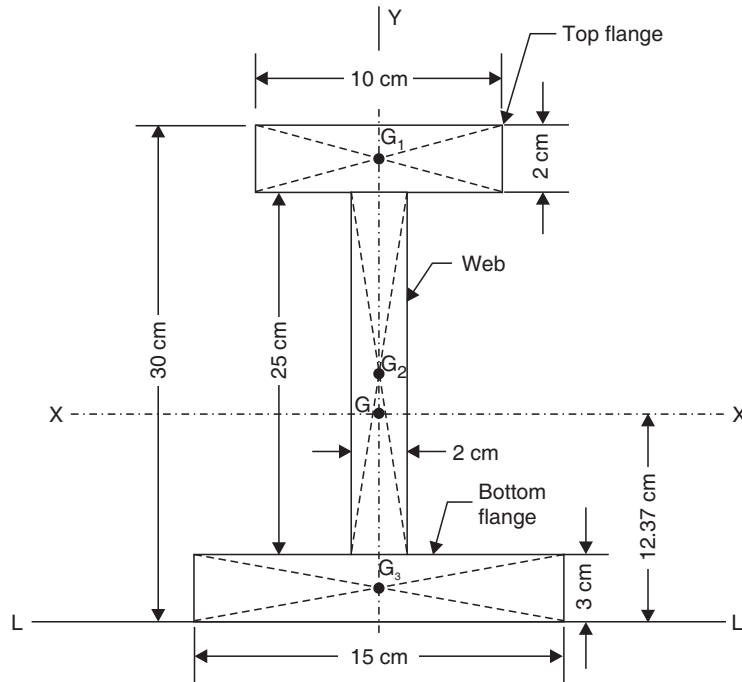

Fig. 4.21
**Example 4.2.** Determine the position of the centroid of I-section as shown in Fig. 4.21.
**Sol.** Refer to Fig. 4.21.